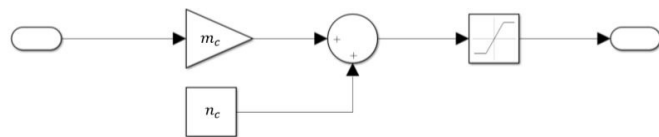

Figure 20: Subsystem Output\_Calibration.
**Output\_Calibration Subsystem:** This subsystem (see Fig. 20) shall stay the last subsystem for calibrating the outputs. A short description of how to calibrate outputs can be found inside the subsystem. The calibration is needed to set the null position in line with the airfoil camber line. At least one further position needs to be measured to calibrate the deflection of flight control surfaces. In the provided set, the outputs are already pre-calibrated.